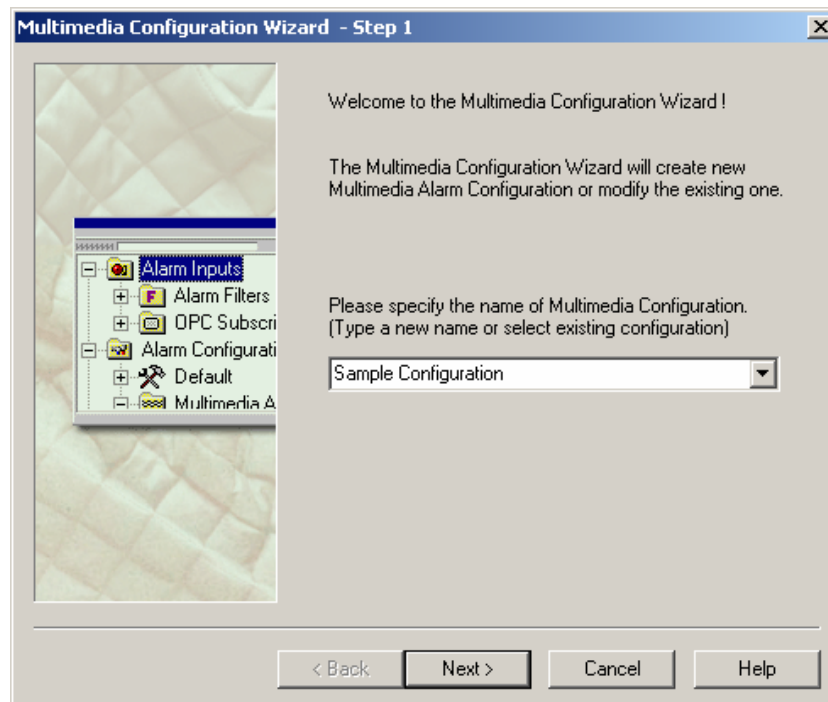

Figure 3.2. Step 1: Entering a Name for the Configuration
1. The first step in the Multimedia Configuration Wizard is to enter a name for your alarm configuration, as shown in **Figure 3.2**. You can also select an existing configuration from the drop-down list. Click **Next** to continue to Step 2.